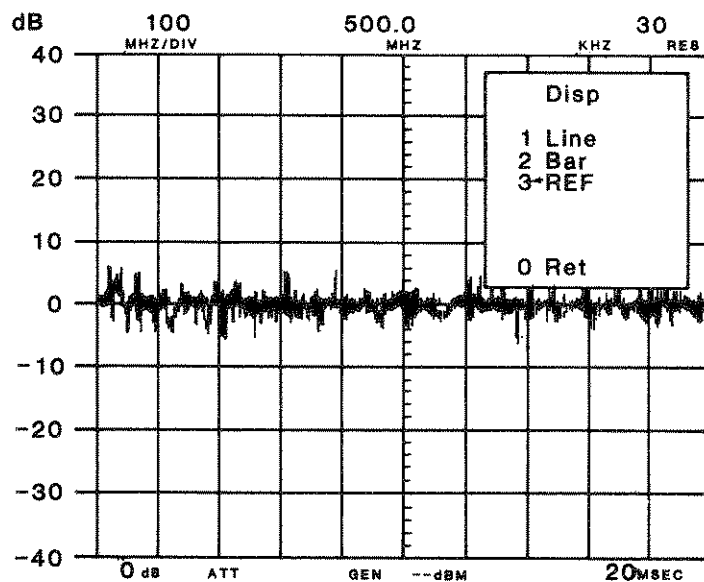
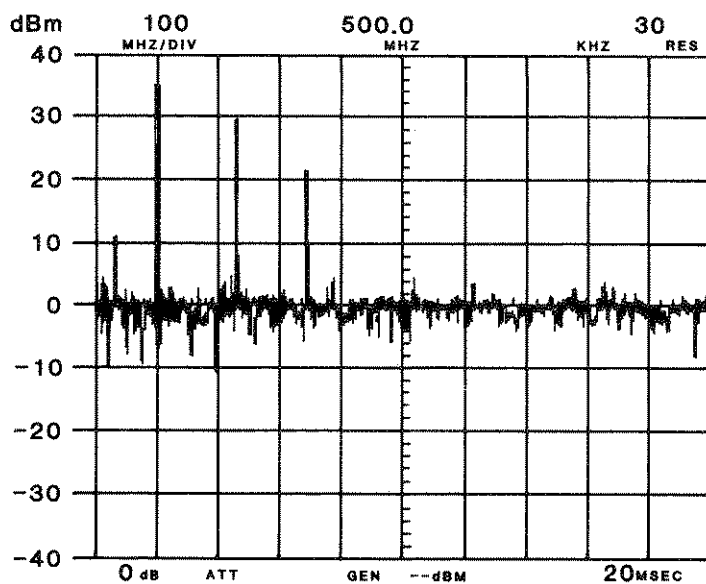

Figure 8-7 Reference Display with Ambient Signals Zeroed
Figure 8-8 Reference Display with UUT Turned On
3. Enter the Display Menu (Press: "1") and select the REF display (Press: "3"). See Figure 8-7.
4. Turn on the unit to be tested for EMI. Watch for signals which appear when UUT is turned on. Note, in Figure 8-8, the signal at 100 MHz, 225 MHz and 330 MHz as a comparison to the signal in Figure 8-7. These signals are from UUT.